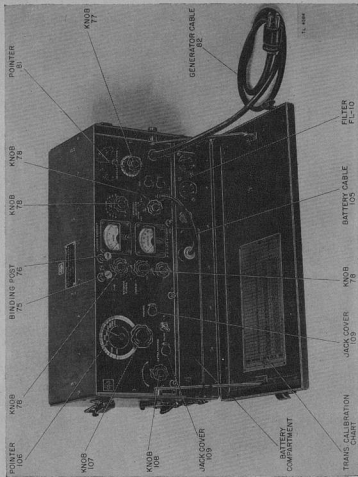

FIGURE 6.—Radio receiver and transmitter RC-47, A—front view.
d. Transmitter operation (see fig. 6).—After the equipment is set up the transmitter is placed in operation as follows:
(1) Determine (directly or by interpolation) from calibration chart which is inside the lid of the receiver-transmitter the setting of the OSCILLATOR TUNING control. (The digits on the left of the hyphen refer to the setting of the pointer 81; those on the right refer to the setting of the dial attached to knob 77.) Adjust OSCILLATOR TUNING control to required setting by turning knob 77.
(2) Place EMISSION SELECTOR switch (marked OFF, PHONE, C. W., CAL.) to PHONE position, and REC-TRANS switch to TRANS position. Have an assistant operate the generator as described in *f* below.
(3) As soon as the tubes are warmed up (indicated by a deflection of the P. A. PLATE CURRENT meter), tune power amplifier plate